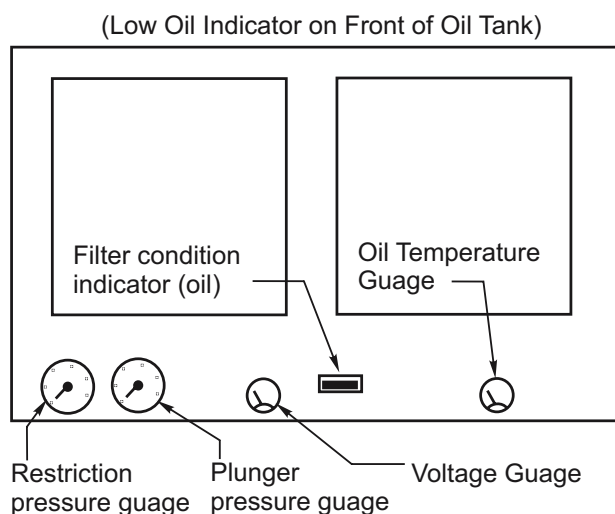

Figure 79 - Front Panel
5. Read the plunger pressure gauge on the left side of the front gauge panel of the baler as illustrated in Figure 79. It should read approximately 6,500 psi.